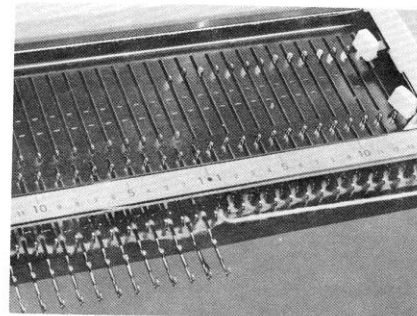

Fig.126
- c) Push back into position (B) all the needles which have already knit the stitches of this row. Other needles which have not knit this row should be brought forward into position (E). The yarn should run from last inside needle in position (B) to the carriage feeder. (Fig.126)